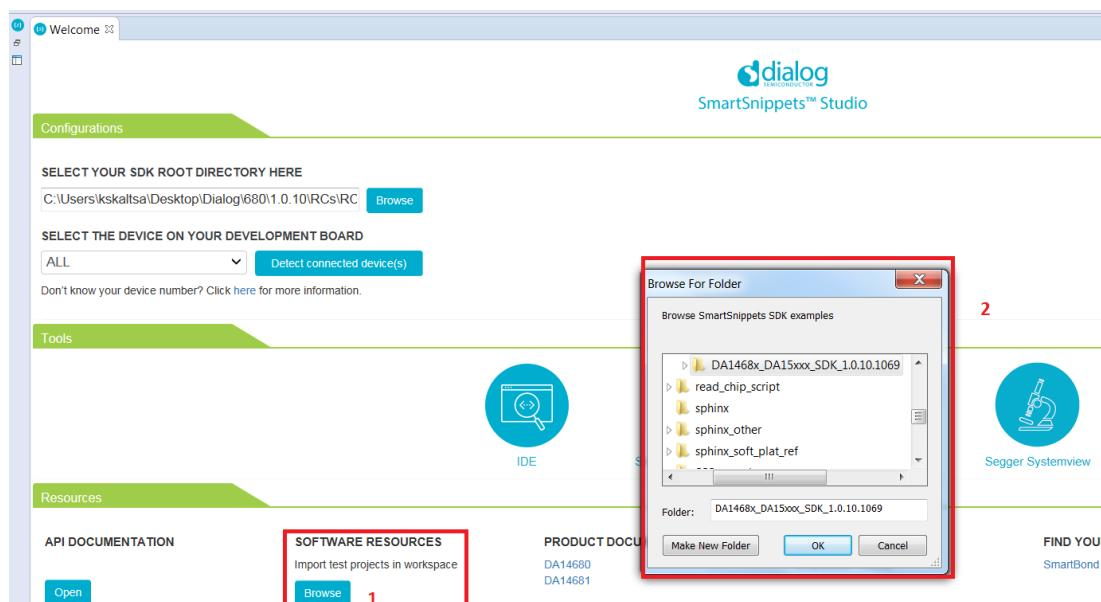

Figure 35: Project import
2. Import the template project `template_freertos_retarget` from: <sdk_root directory>\projects\dk_apps\templates\freertos_retarget into the selected workspace. Press the **browse** button highlighted in the Resources tab (reference 1) and navigate to the folder which contains the specific project as shown in Figure 35.